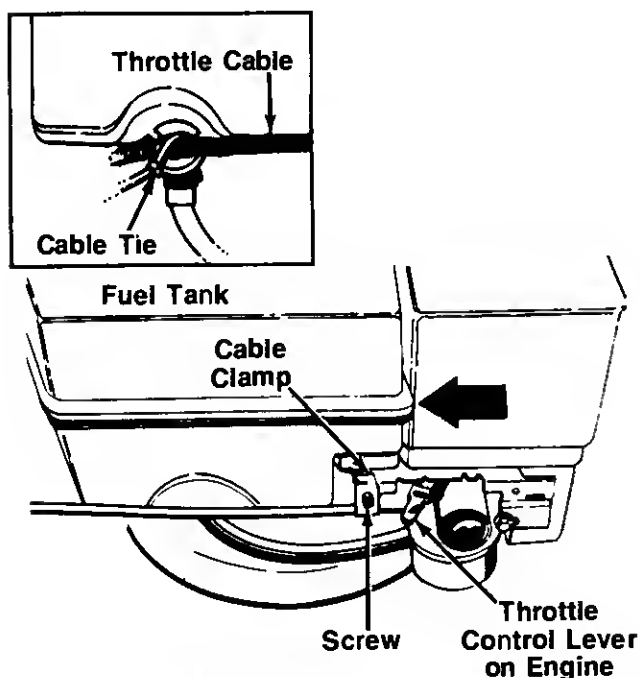

FIGURE 5C.—Model 120897R
5. **Model 120897R only:** Secure the throttle cable to the molded plastic beneath the fuel tank as shown in figure 5C, inset, using a cable tie. Trim excess end of cable tie.